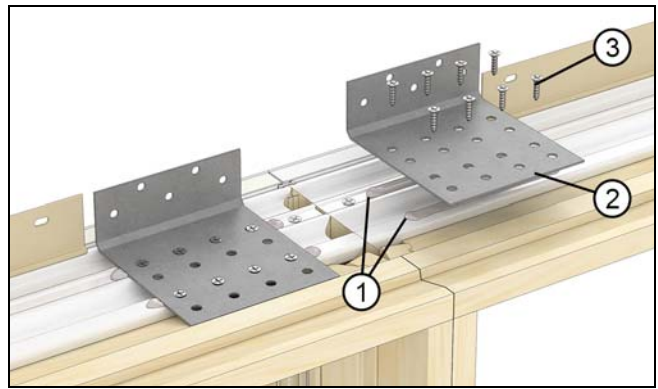

Figure 5
3. Apply two 5/16 x 4" (16 x 102) beads of construction adhesive on the frame where you will install the clips. Then attach the clip to the frame with eight #7 x 5/8" Phillips flat head screws. See Figure 5.